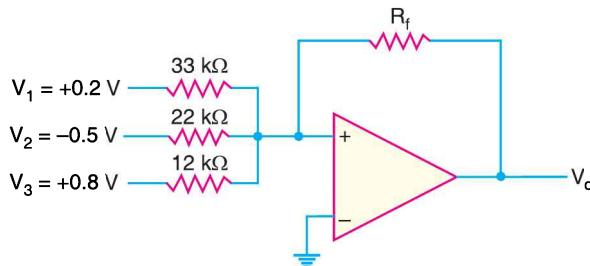

Fig. 25.106
13. Calculate the output voltage of the circuit in Fig. 25.106 for $R_f = 68 \text{ k}\Omega$. $[V_o = -3.39 \text{ V}]$